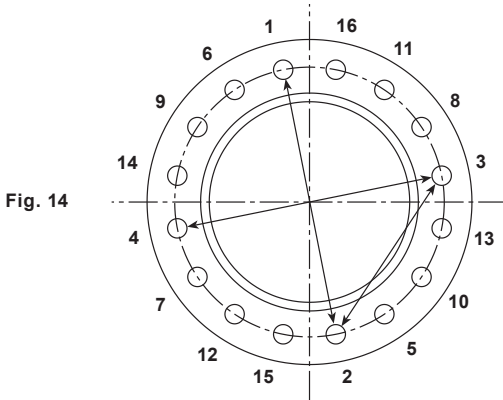

Fig. 14
5.3 Retighten the bolting on all gasket joints after the heat exchanger has reached operation temperatures to prevent leaks and gasket failures. Retightening should be done uniformly and in a diametrically staggered pattern as illustrated in Figure 14 and in compliance with Section 6.6 'Bolting'.
The tightening must be done evenly operating on diametrically opposite bolts as illustrated in Figure 14.